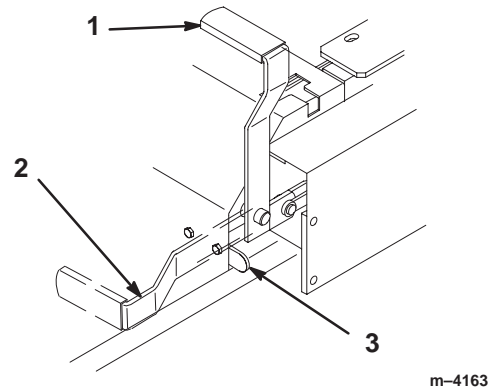

Figure 4
2. Pull back and up on the parking brake lever to set the parking brake (Fig. 4). The parking brake lever should stay firmly in the engaged position.
1. Push forward and down on the parking brake lever to release the parking brake (Fig. 4). The parking brake is disengaged and the lever rests against the brake stop.